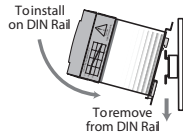

fig.1 Mounting on DIN Rail
- Using reasonable force, push CKR in the direction of the arrow shown in fig.1.